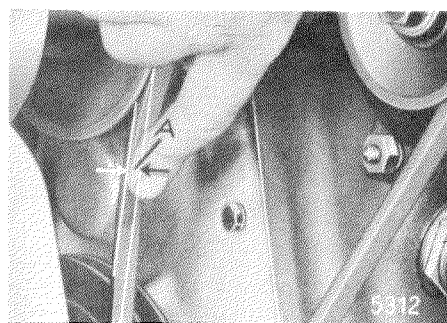

Figure 20-6/5
The tension of the V-belt is correct, if it deflects by approx. **10-15 mm** when applying moderate pressure between the two pulleys (see Figure 20-6/5). The mounting screws (2) and the hex. nut (6) should be tightened (see Figure 20-6/4).